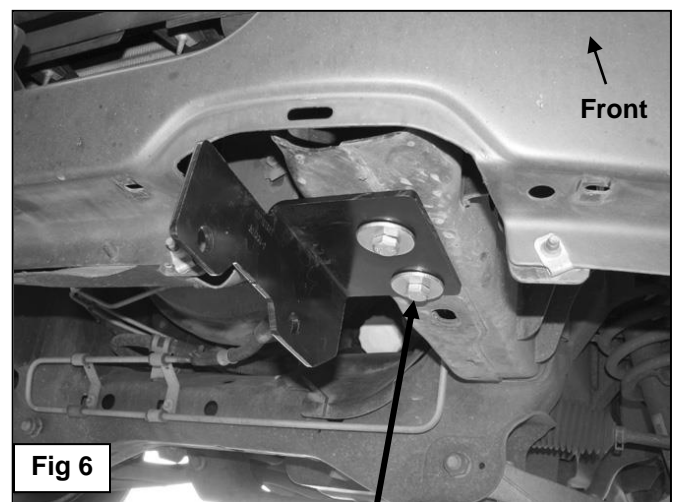

Fig 6
- b. Starting on the driver side of the vehicle, insert (1) 12mm Double Nut Plate through the opening in the open front end of the frame, **(Figures 5A & 5B)**. Line up the threaded hex nuts on the Nut Plate with the (2) factory holes in the bottom of the frame channel. Hold the Nut Plate in position with (1) 12mm x 40mm Hex Bolt, (1) 12mm Lock Washer and (1) 12mm x 44mm Large Flat Washer partially threaded into the rearmost threaded hole in the Nut Plate, **(Figure 6)**.
- c. Select the driver side Frame Mounting Bracket. Slide the slot in the Bracket under the 12mm Hex Bolt and Washers. Line up the remaining hole in the Bracket with the forward hole in the Nut Plate. Insert (1) 12mm x 40mm Hex Bolt, (1) 12mm Lock Washer and (1) 12mm x 44mm Large Flat Washer into the remaining hole in the Bracket, **(Figure 6)**. Snug but do not fully tighten hardware at this time.